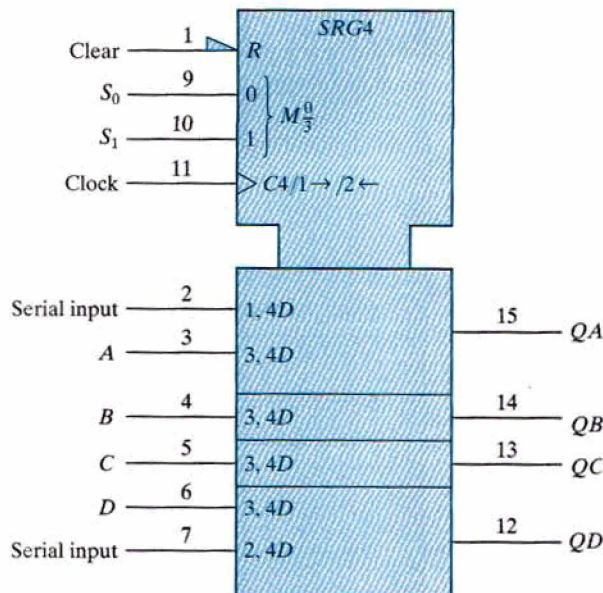

FIGURE 12.12
Figure 12.12 shows the graphic symbol for the bidirectional shift register with parallel load, IC type 74194. The function table for this IC is listed in Fig. 11.19. The common control block shows an R input for resetting all flip-flops to 0 asynchronously. The mode select has two inputs and the mode dependency M may take binary values from 0 to 3. This is indicated by the symbol $M_{\frac{0}{3}}$, which stands for $M0$, $M1$, $M2$, $M3$, and is similar to the notation for the G dependency in multiplexers. The symbol associated with the clock is
- 12.10** Explain all the symbols used in the standard graphic diagram of Fig. 12.12.